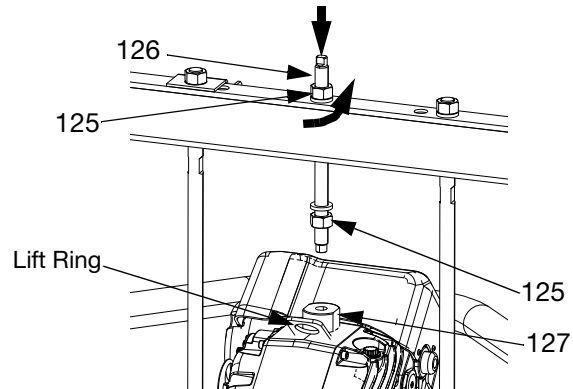

FIG. 50: 55 Gallon Platen
- 5. Disconnect Driver (AB):
- a. *D200 3 in. and D200s 6.5 in. ram supply units:* Attach a secure hoist to the driver lift ring. Loosen nut (125) below crossbar. Use wrench to hold lift ring adapter (127) in place and loosen threaded rod (126) above crossbar with another wrench. See FIG. 50.